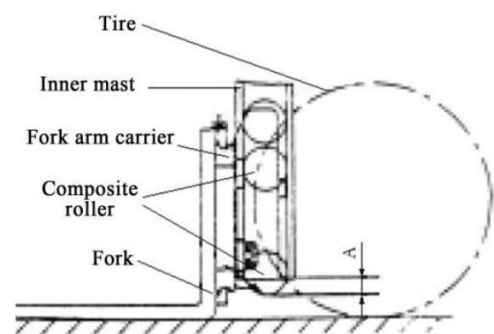

Fig. 6-18
- (1) Park the car on flat ground and make the mast vertical.
- (2) Make the fork bottom surface touch the ground, and adjust the adjusting nut of the upper end joint of the chain in such way that there is a distance A between the main roller and the lower end surface of mast channel steel, as shown in Fig. 6-18.